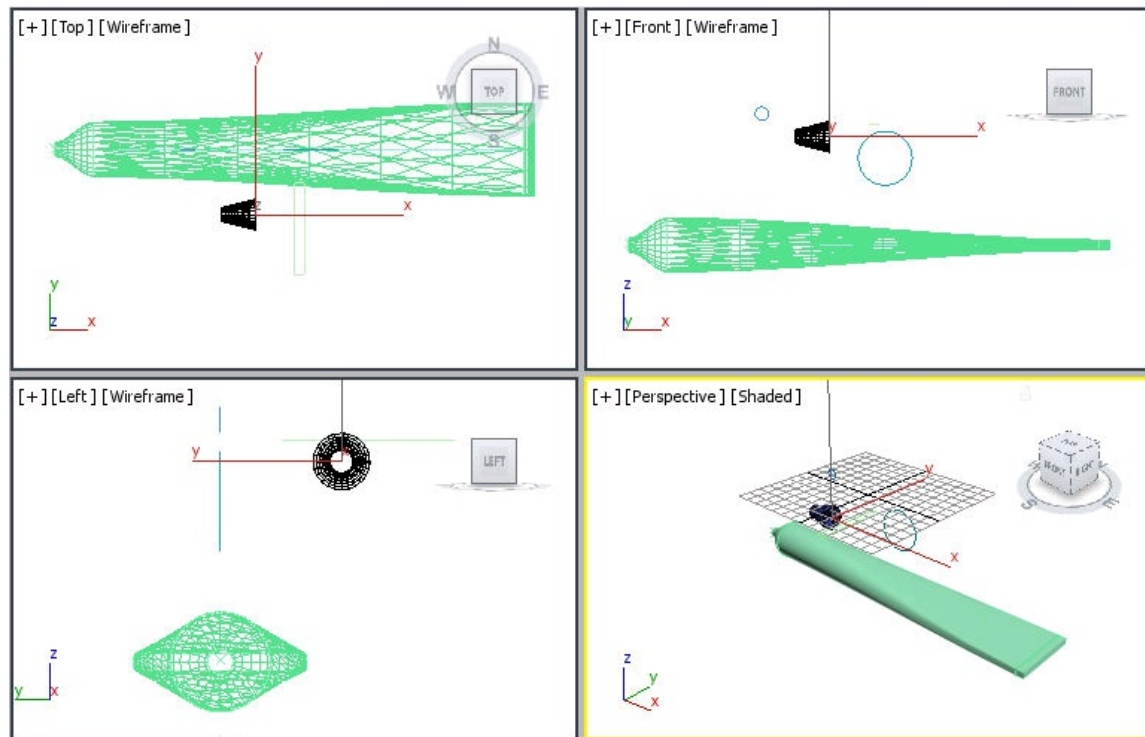

Figure 11-72 The objects in the viewports
22. Choose the **Zoom Extents All** tool; all the objects are displayed, as shown in Figure 11-72.